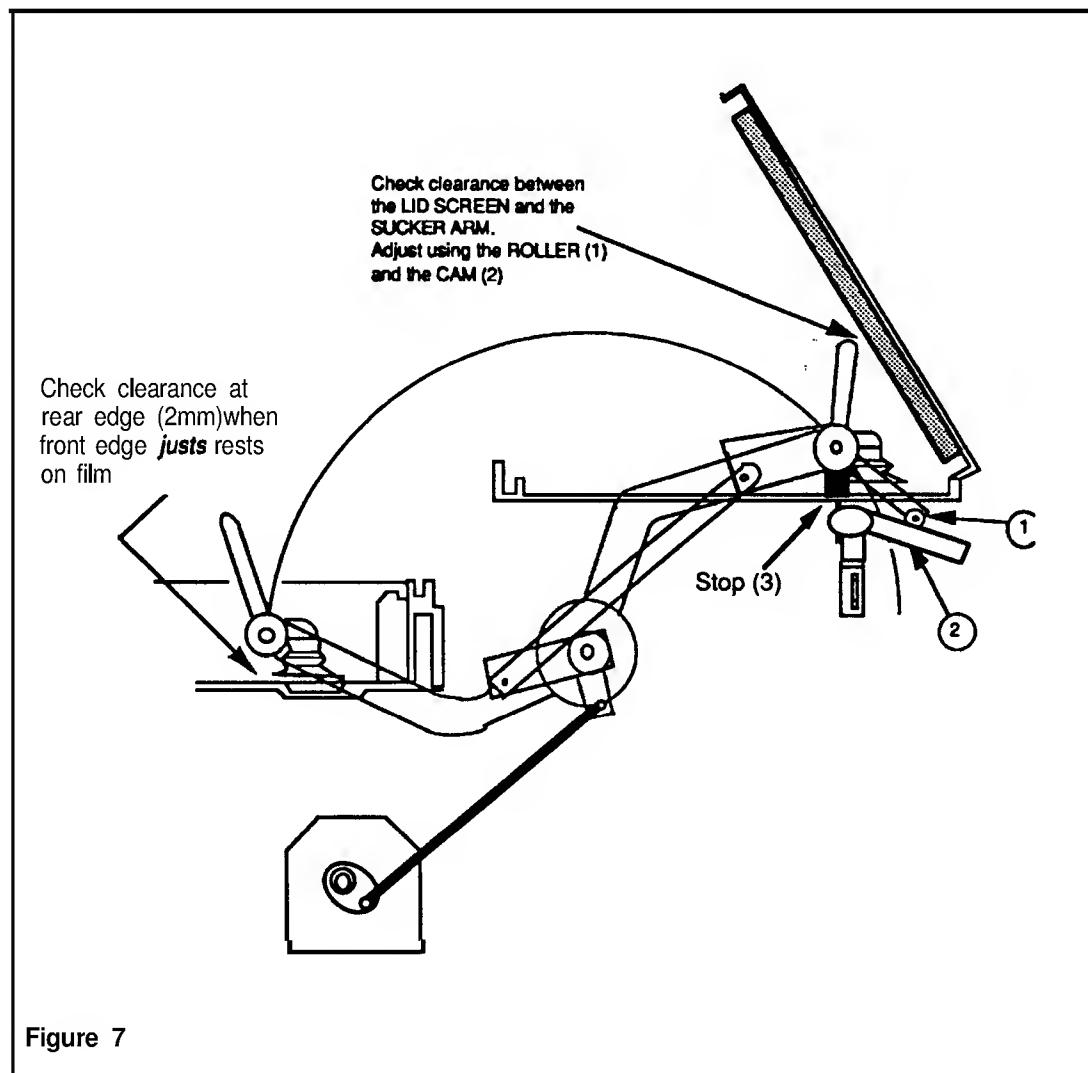

Figure 7
- 3 Slacken off the STOP (3 in **fig 7** page SM 17). Run some cycles and adjust the CAM (2 in **fig 7**) to obtain correct entry of the FILM into the CASSETTE. If necessary also adjust the length of either of the PUSH RODS. The FILM should be "tucked into" the HINGE of the CASSETTE without catching the BASE of the CASSETTE or the SCREEN. The FILM should not stub against the HINGE and the SUCKER BAR must not catch the SCREEN. When the FILM is being entered correctly into the CASSETTE, set the STOP so the SUCKER BAR presses against it with a force of 0.5 to 1 kg.